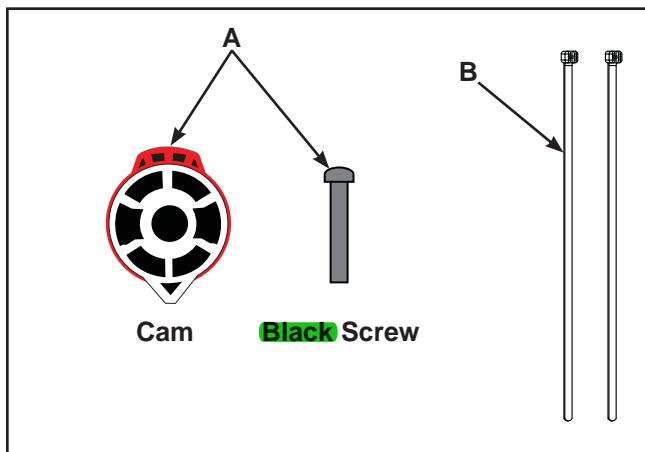

Figure 1
2. Verify the kit contents shown in Figure 1.
- A. Kit, Preset Cam Assembly, With Screw (1), KAX-22891
- B. Wire Tie, 9" (2), EH-00986
- A. Locate the cam and **black** screw from the kit. See Figure 1.